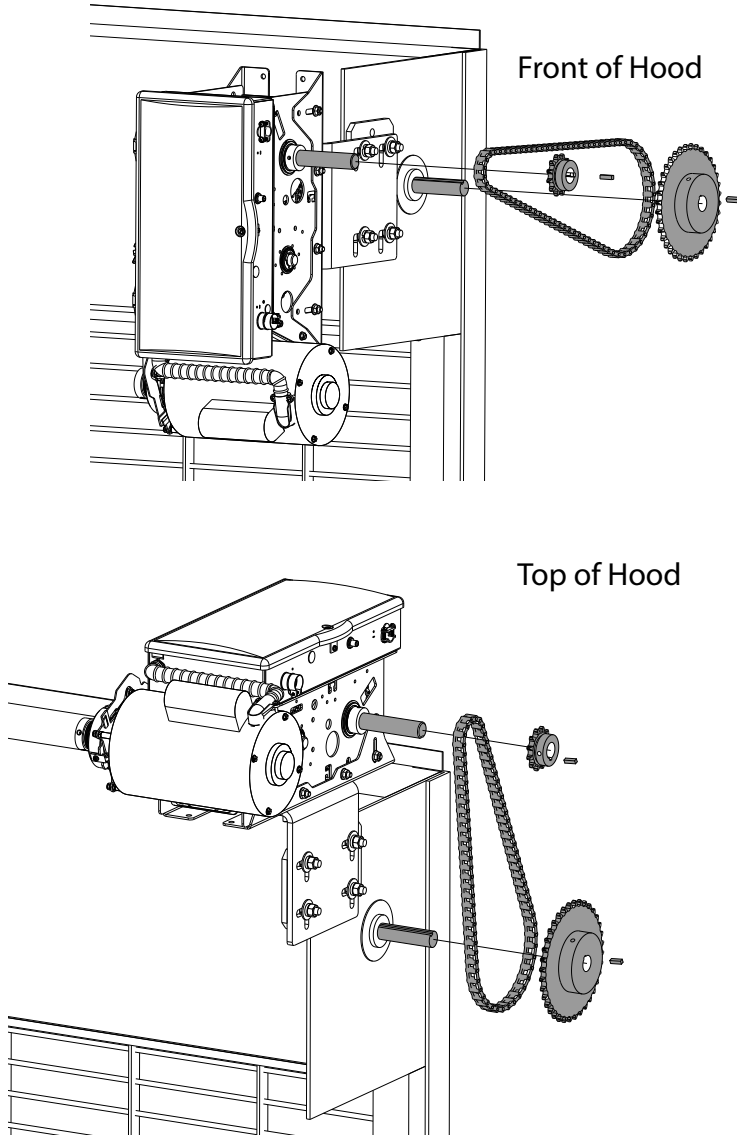

Fig. 5
- 1) Attach 12 tooth sprocket and key to operator output shaft. Do not tighten. Fig. 5